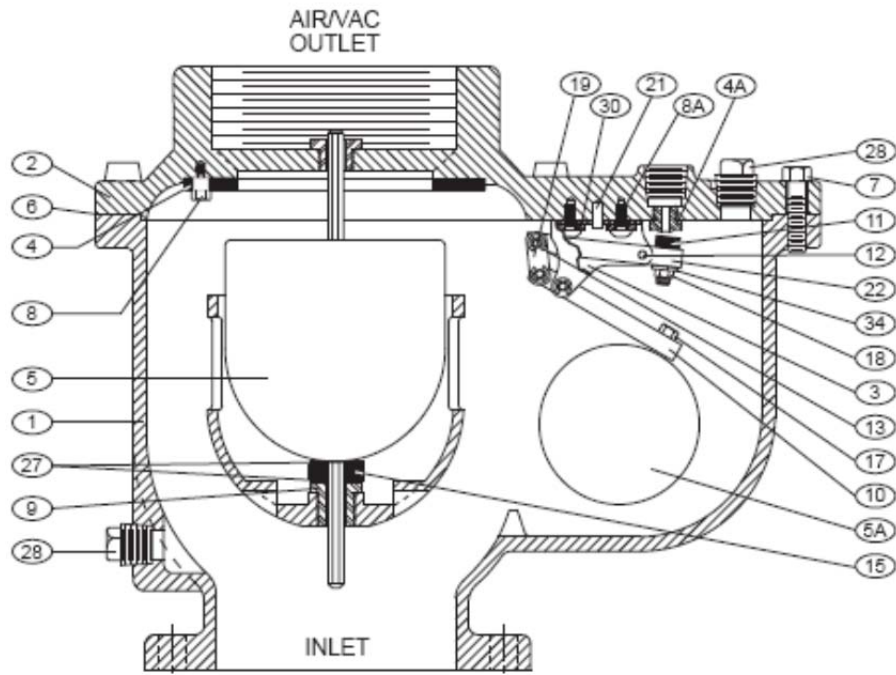

Figure 2. 6"-8" Combination Air Valve
The standard Combination Air Valve body and cover are cast iron. See specific Materials List submitted for the order if other than standard cast iron construction. The internal metal components are stainless steel. The orifice button and seat are resilient Buna-N. The general details of construction are illustrated in Figure 2. The body (1) is flanged for connection to the pipeline. The air/vacuum seat (4) is retained by retaining screws (8) in the cover (2). The air release seat (4A) is threaded into the cover (2) and sealed with the adjustable orifice button (11), which has a threaded post for attachment to the orifice button arm (22).
All parts must be cleaned and gasket surfaces should be cleaned with a stiff wire brush in the direction of the serrations or machine marks. Worn parts, gaskets and seals should be replaced during reassembly. Refer to Figure 2.